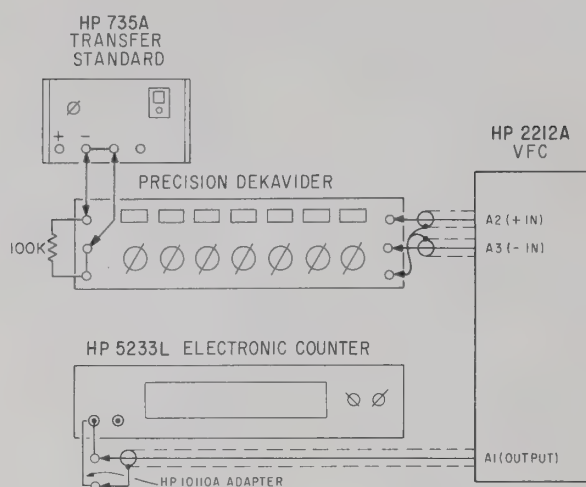

Figure 2-11B. Setup for Calibrating Other Ranges
10. Connect setup shown in Figure 2-11B (page 2-8) and set the 2212A to 1 VOLT RANGE and the Dekavider to 999999TEN.
14. Shift lead connections to the Transfer Standard one set of terminals to the right (connections shown in Figure 2-11B).